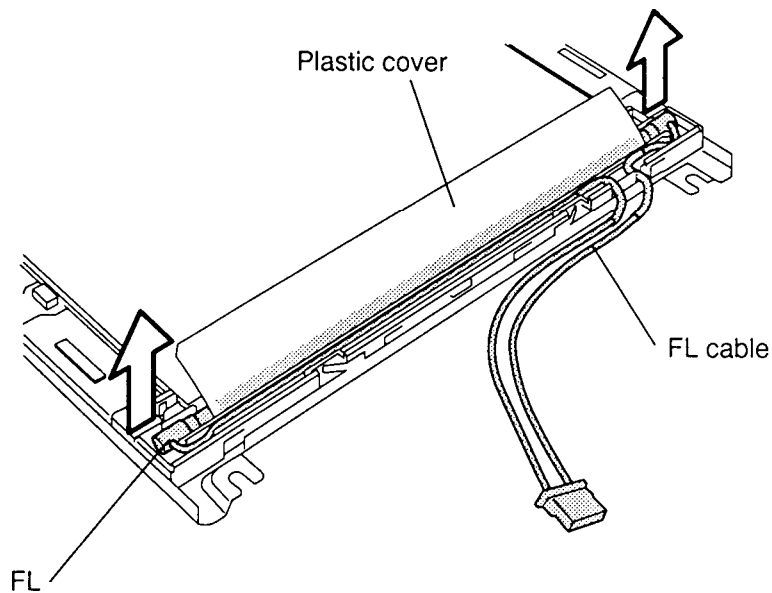

Figure 4-30 Removing the FL
6. Hold up the **plastic cover** shielding the **fluorescent lamp (FL)** and lift the **FL cable** to remove the FL (Figure 4-30).